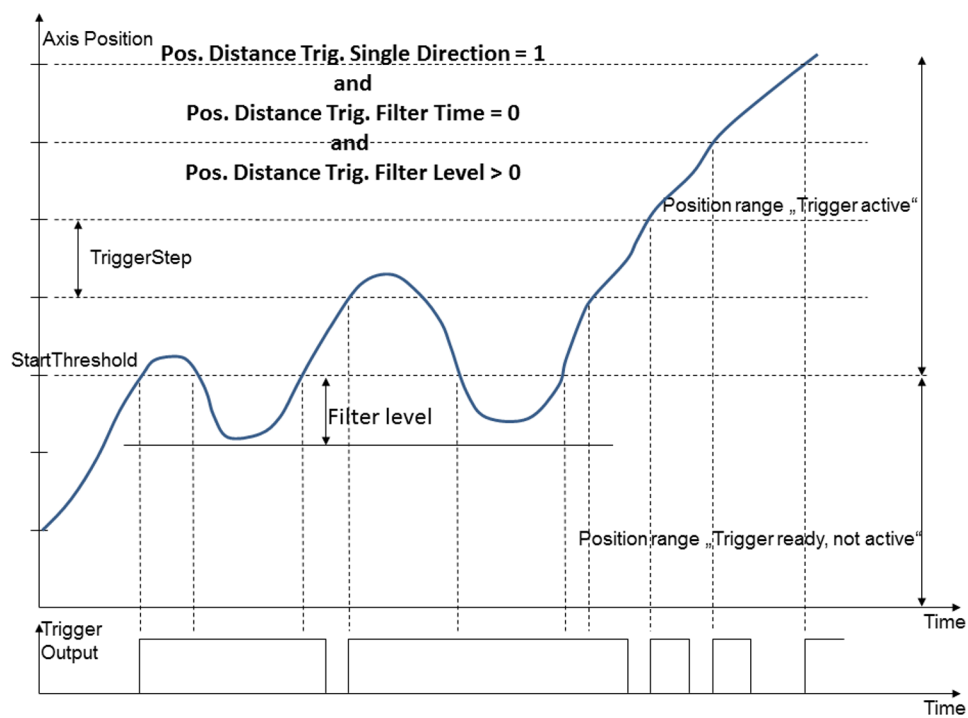

Figure 66: Position Distance trigger mode with threshold settings, with position level filter
- The Pos. Distance Trig. Filter Level parameter (ID 0x18000302) specifies a position level filter. The position level filter is used to delay the trigger deactivation when the axis position falls below the start threshold due to noise (Figure 66). The filter level value is specified in axis units. Recommended minimum value: amplitude of the noise signal. Default value: 0 (= filter deactivated)